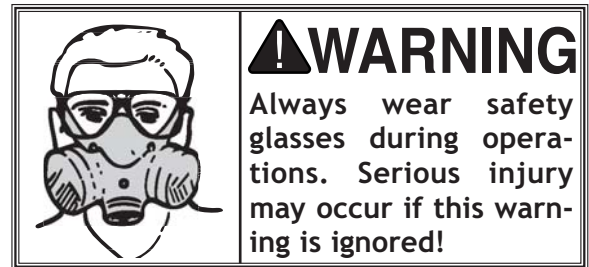

Figure 44. Hand poised over START/STOP buttons.
4. Push the START button, but make sure that your hand stays over the STOP button. In case there is a problem, push the STOP button immediately to turn off the machine (see Figure 44).